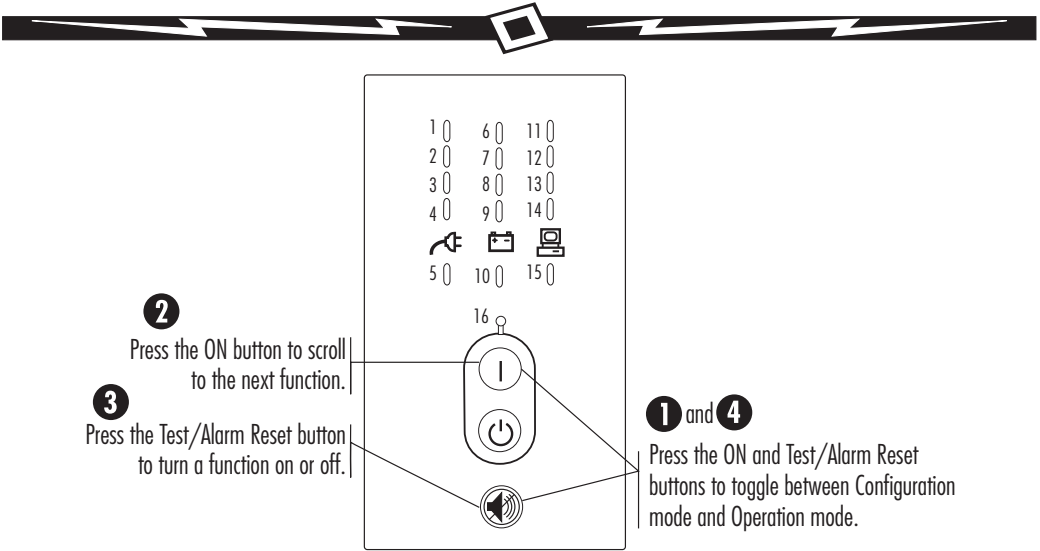

Figure 4. LED Function in Configuration Mode
You can change the functions after switching the UPS from Operation mode to Configuration mode. In Configuration mode the front-panel LEDs represent changeable functions, and the control buttons turn them on or off. Figure 4 shows the LED numbers, and Table 2 explains the functions.
2. Press the ON button to scroll to the function you want to change. The UPS beeps as you scroll through each function. The selected function (LED) blinks. Figure 4 shows how the LEDs are numbered. Table 2 describes the functions.